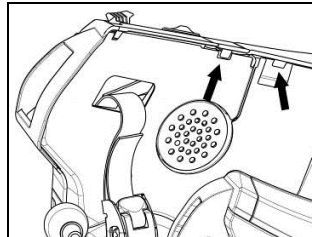

Fig. 13
- Reposition the plastic lining of the cheek padding, arranging it behind the two small stop hooks (Fig. 13).